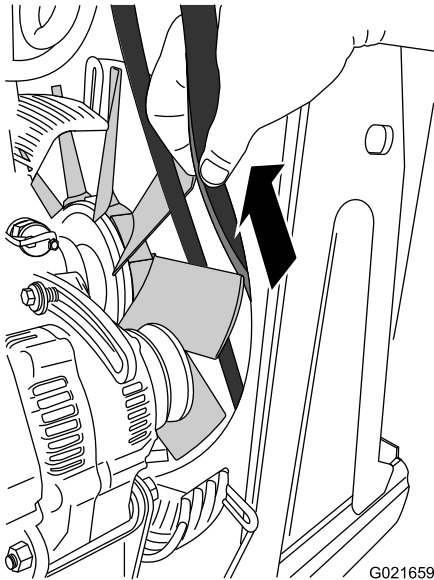

Figure 90
11. Align the belt between 2 of the fan blades, then carefully pull the belt rearward and up until you can remove it from the machine (Figure 90).